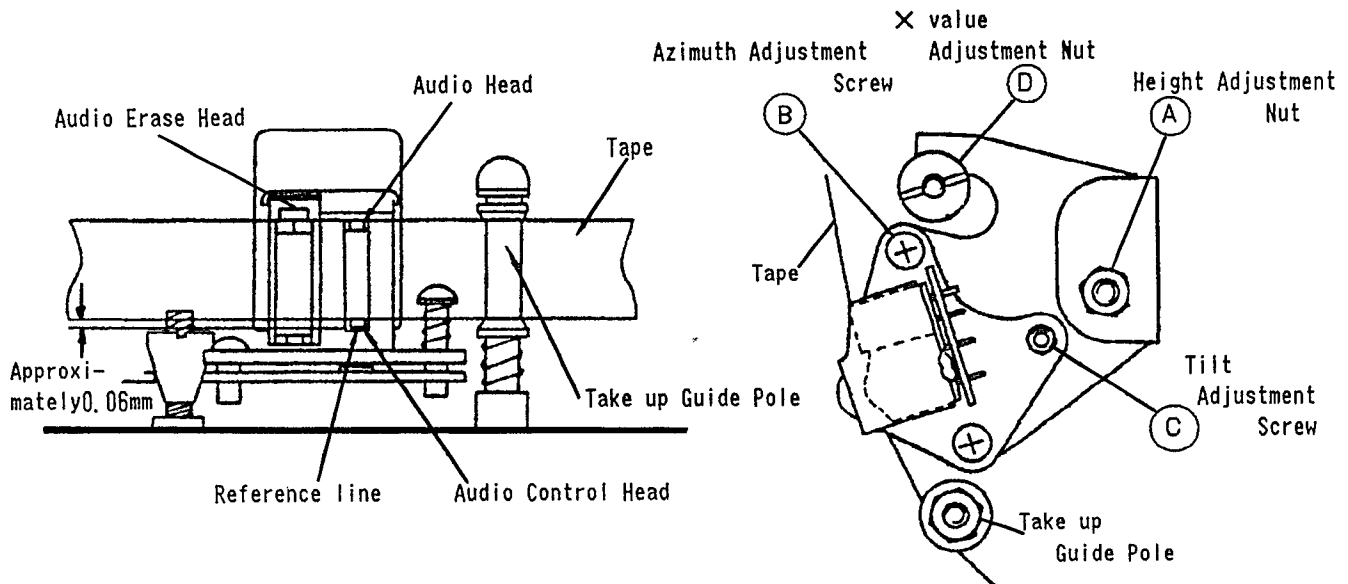

Fig. 5-7
2. Adjust the height of the edge of the audio track on the audio control Head by using the height adjustment nut (A) and the tilt adjustment screw (C) so that the tape transport is smooth at the take-up guide pole. Align the audio control head height (Refer to Fig. 5-7).